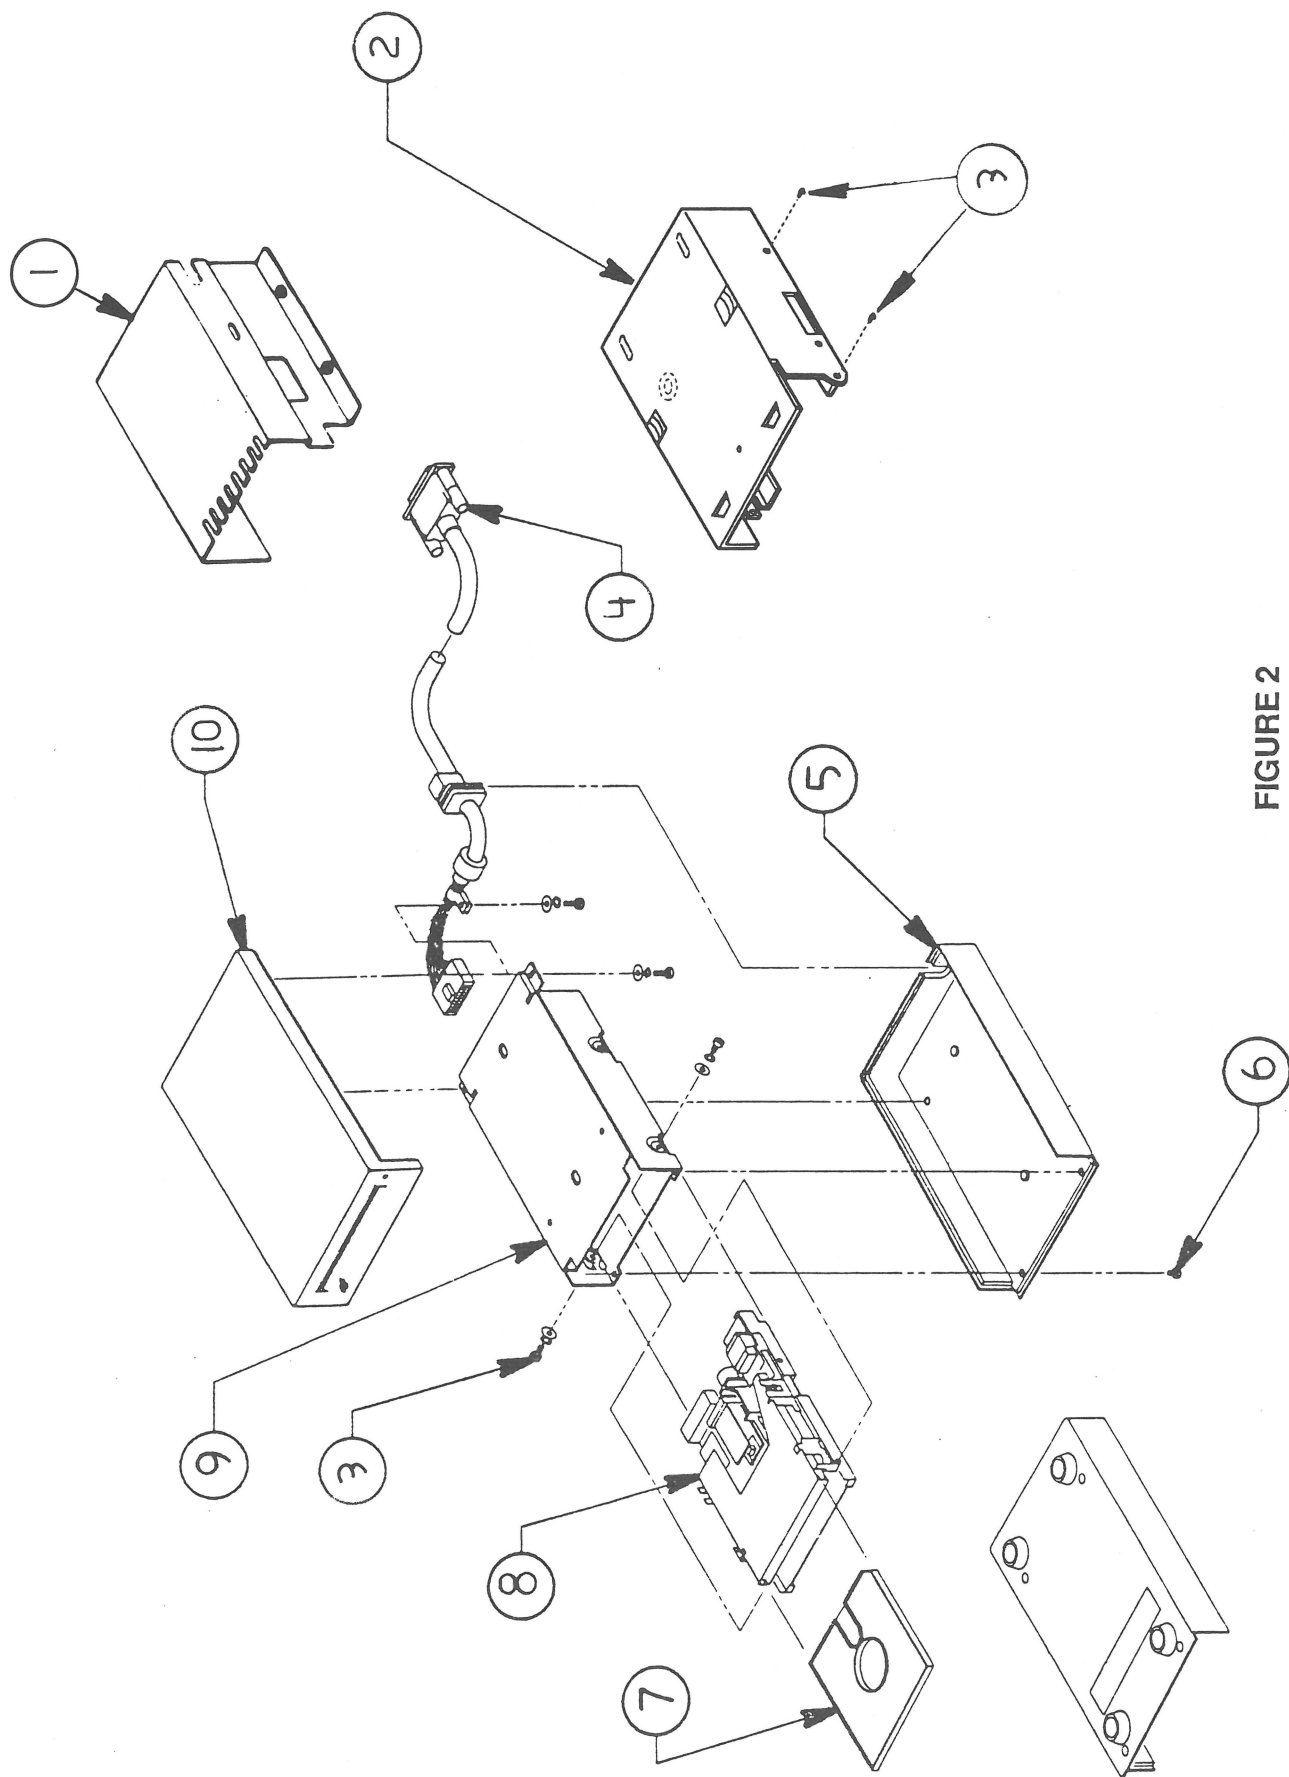

FIGURE 2
□ MACINTOSH 800K EXTERNAL DISK DRIVE (Figure 2)